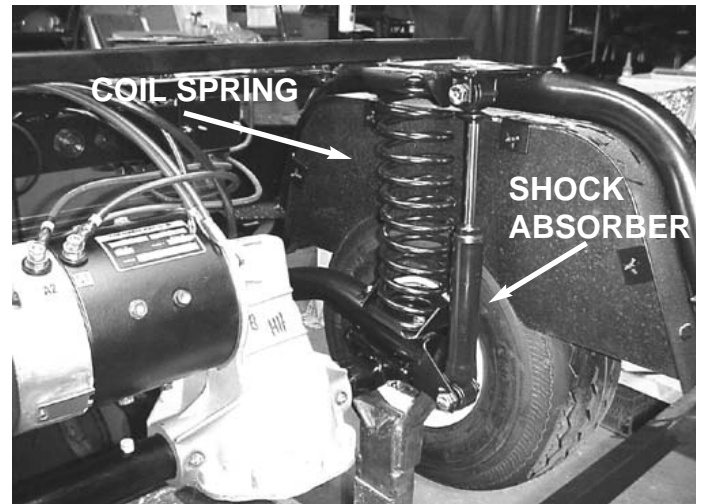

Figure 15 - Rear Shock Absorber and Spring
1. Remove upper and lower mounting bolts. See Figure 15.
1. With vehicle raised and the rear fork supported on jack stands (see page 6-5, Figure 8), remove two shock absorber bolts. See Figure 15.